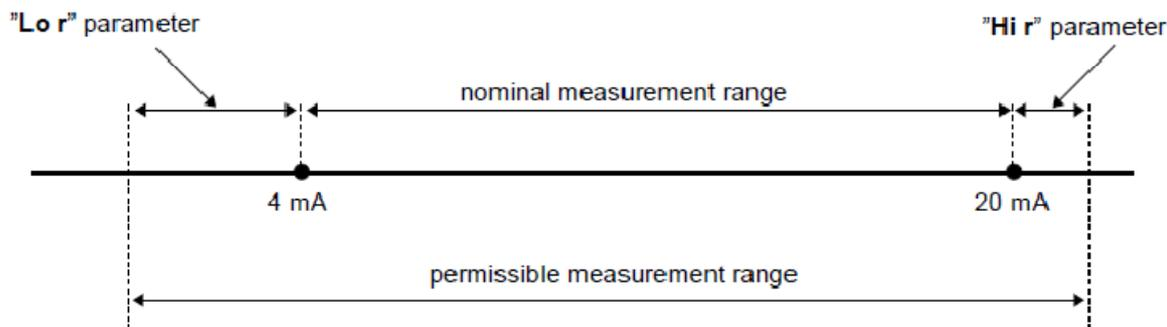

Fig. 6.1. definitions of measurement ranges in mode 4 ... 20 mA
In the measure mode, the measurement results, converted over selected characteristic, are displayed on the LED display. The measurement range equal to the nominal range is called: **nominal measurement range**, and the measurement range equal to the extended nominal range is called: **permissible measurement range** (Figure 6.1, 6.2).
**"PEA"** - minimal detected signal change classified as peak or drop (see Figure 6.1)